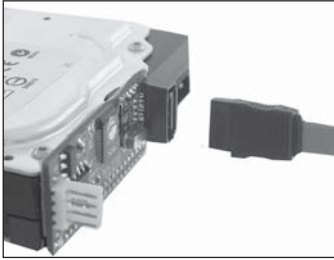

Figure 4
5. Connect the SATA data cable to the *SATA-to-IDE Adapter*, refer to **Figure 4** and **5**.